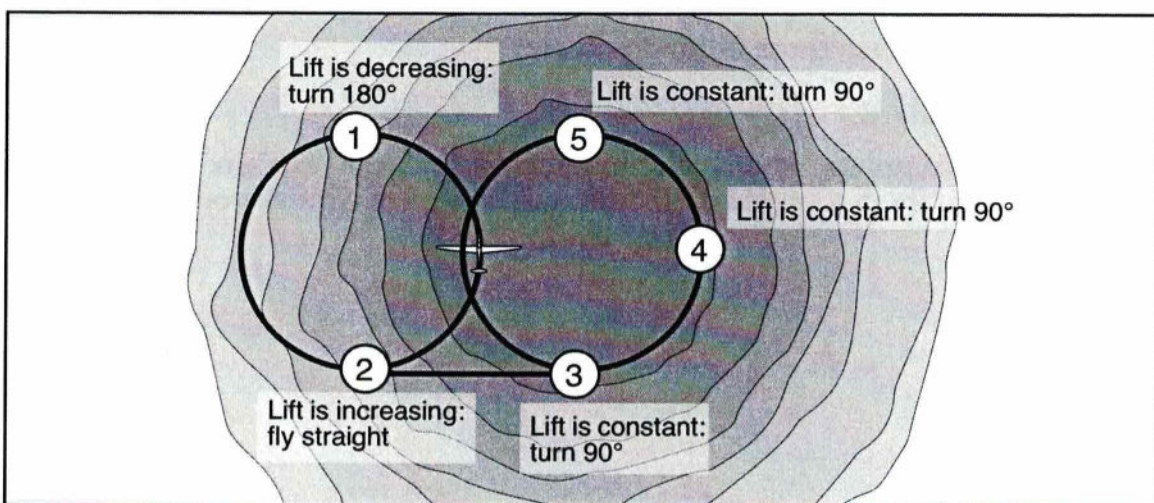

Figure 7.7 – Using the thermaling algorithm to center a thermal
The glider shown in Figure 7.7 is in a thermal but is not centered. The pilot will notice that the lift is decreasing at ①, increasing at ②, and peaks where the glider is shown.